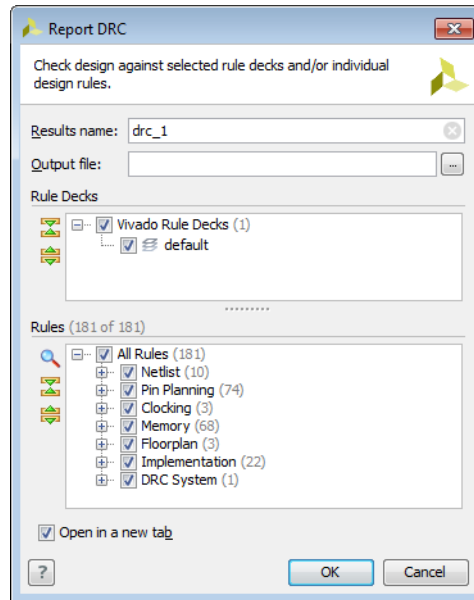

Figure 4-6: Report DRC Dialog Box
3. In the Report DRC dialog box (Figure 4-6), set the following options, and click **OK**: